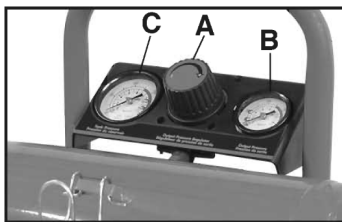

FIGURE 4
REGULATOR (A) FIG. 4
OUTLET PRESSURE GAUGE (B) FIG. 4